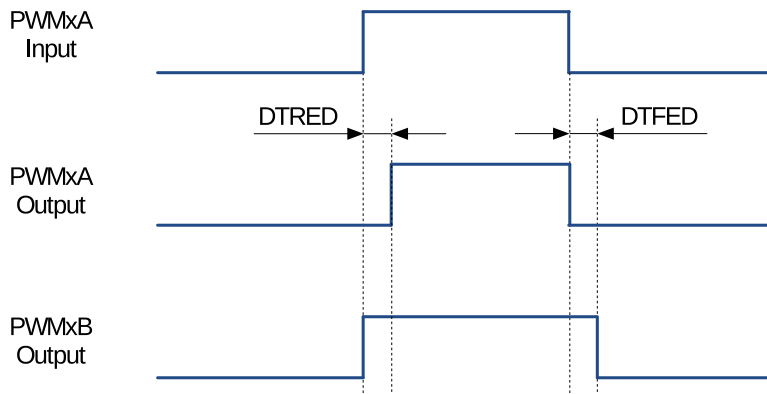

Figure 115: Active High (AH) Dead Time Waveforms
| 4 | Active High (AH), see Figure 115 | 0 | 0 | 0 | 0 |